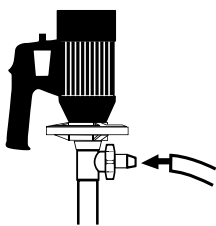

Figure 10
- Secure the discharge tubing assembly to pump discharge barb and secure with Stainless hose clamp supplied (Figure 10).